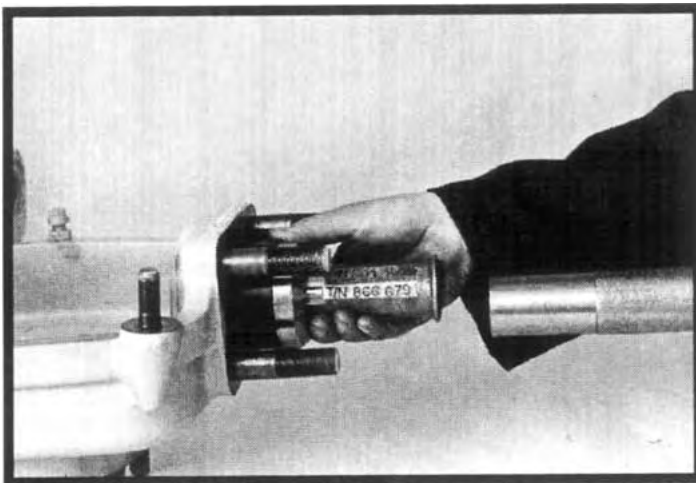
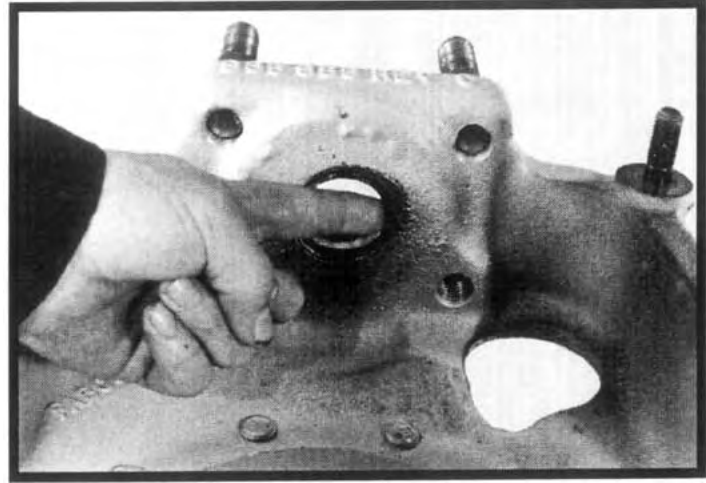

Figure 16
Figure 17
2. Place the lower kingpin plate in the suspension yoke and drive in the bearing and seal after it. Both upper and lower kingpin seals must be installed in their bores w/grease lips facing outward. If the upper kingpin bearing has been removed, install the new part using either a pusher plate or the old part as a driver. See Figure 16. If necessary, install a new upper kingpin seal against its shoulder opposite the upper kingpin bearing. See Figure 17.